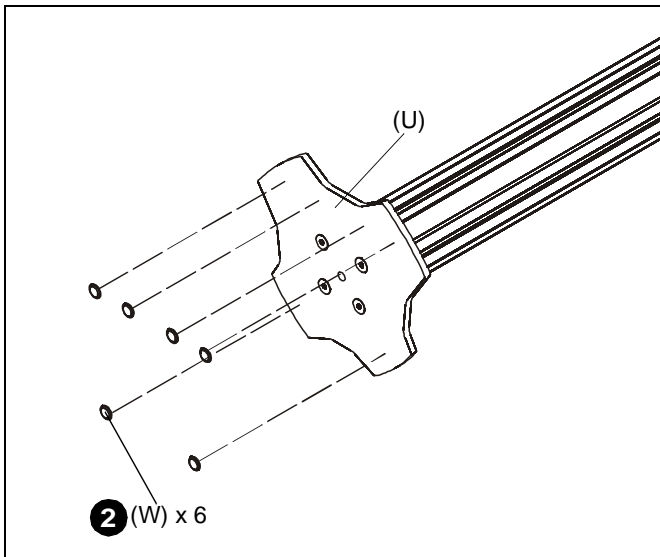

Figure 2
2. Apply bumpers (W) to underside of grommet plate (U). (See Figure 2)